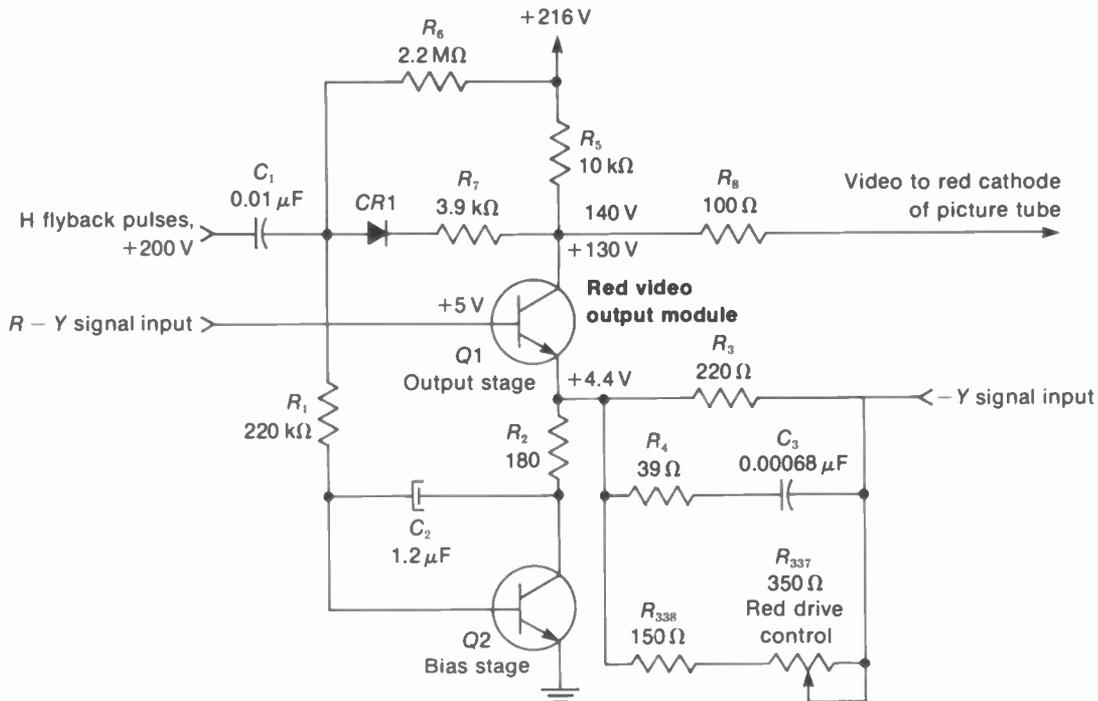

FIGURE 17-28 COLOR VIDEO AMPLIFIER THAT INCLUDES MATRIXING AND BLANKING. (FROM RCA CHASSIS CTC 59)
**Red video output module.** In Fig. 17-28, Q1 is the video output transistor supplying all the signal needed for the red gun, including the red video, matrixed Y video, and blanking pulses. Q2 is a bias transistor to control the current in the output stage. Both Q1 and Q2 are on a small module board, with three separate modules (for red, green, and blue video output) to drive the picture tube.
19. In Fig. 17-28, give the signals into and out of the red video output stage  $Q1$ .